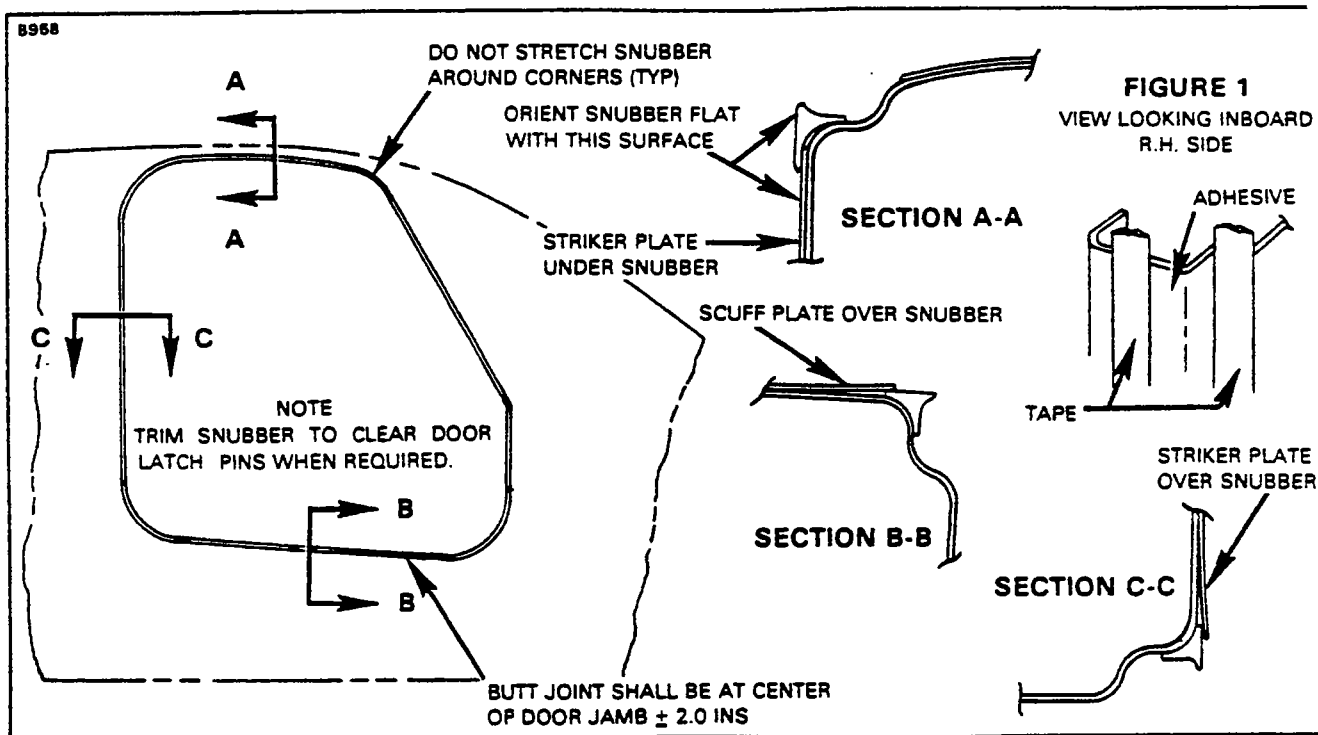

Figure 4-8. Door Snubber Installation
### 4-41. REMOVAL AND INSTALLATION OF DOOR SEAL SNUBBERS. (Refer to Figure 4-8.)
7. With reference to Figure 4-8, make sure the seal is properly aligned before allowing the surfaces to come in contact. The seal should not be stretched or pulled such that the cross section of the seal is reduced or distorted. Make sure the door closes properly and that an airtight seal is produced.